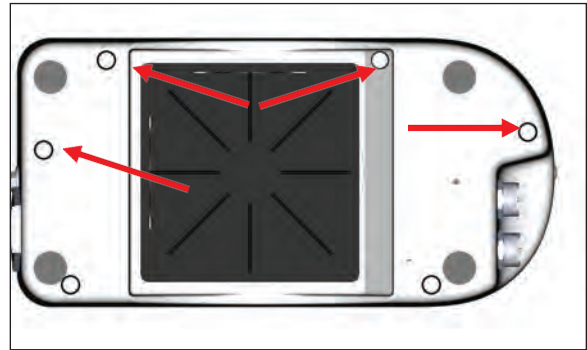

Figure 31 - Step 5 Install front enclosure
5. Install the front enclosure to the base enclosure with four #10-24 x 3/4" Phillips fillister head screws (Figure 31).